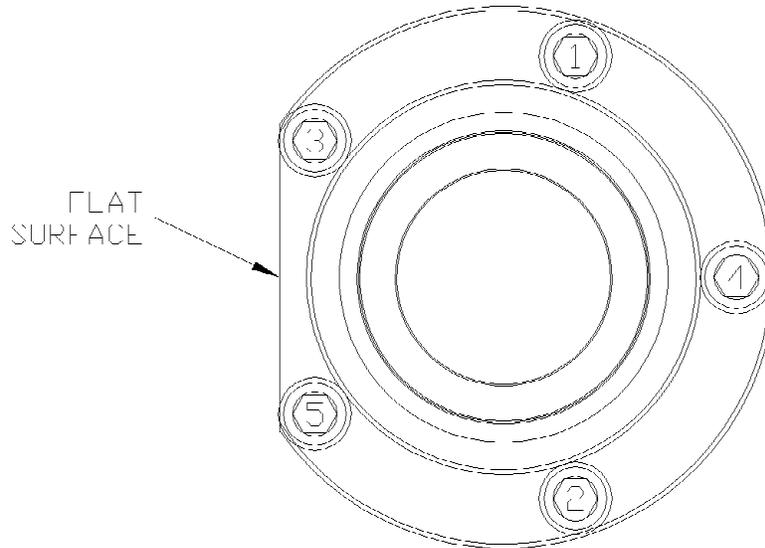

figure A-12
18. Wrap masking tape or electrical tape around the pinion to cover the edges at the keyway. Slide the bearing cap assembly over the pinion shaft with the bearing cap seal facing toward the actuator body and the flat surface of the flange shown in figure A-12 facing toward the actuator mounting flanges. Press against the bearing cap until the shoulder seats against the actuator body, making sure that the seals remain in place. Install the bearing cap bolts (21) (fig. A-13) and lock washers (25). Hand tighten only at this time. Repeat this procedure for other bearing cap.
19. After both bearing caps have been installed, torque all bearing cap bolts to 30 ft-lb. in the sequence shown in figure A-12.